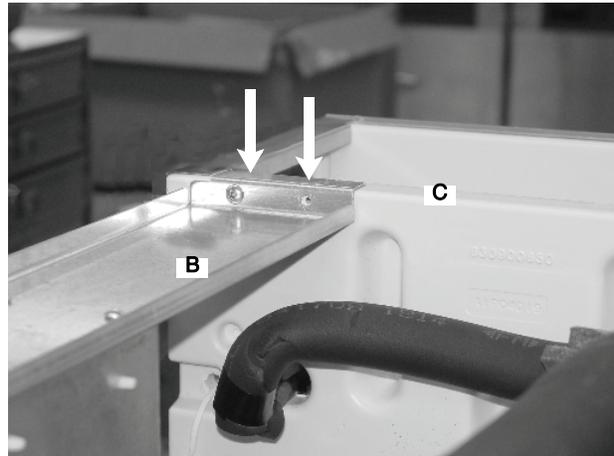

Figure 43.
52. Attach the support brace (B) to the evaporator bulkhead (C) with 2 Phillips head screws (FIGURE 43).